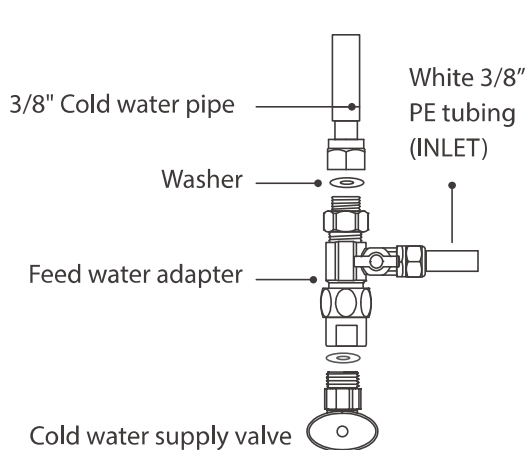

Figure 5
c. Twist the feed water adapter onto the cold water supply valve (with its washer) and tighten it with an adjustable wrench(**Figure 5**). The "INLET" water tubing has been attached to the feed water adapter for easy installation.